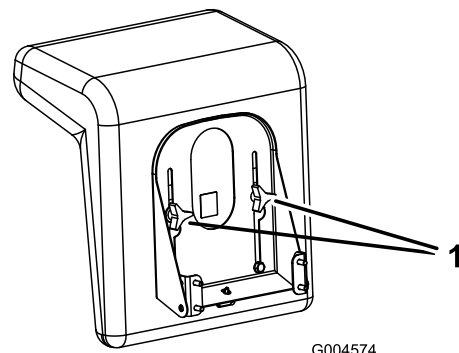

Figure 9
1. Raise the seat and loosen the adjustment knobs (Figure 9).